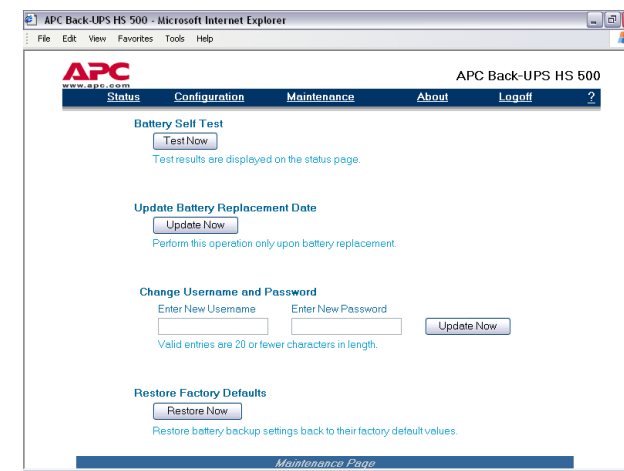

Figure 15. Maintenance Page Screen
14. Using the **Maintenance** Screen (Figure 15), you can perform a **Battery Self-Test**, **Update the Battery Replacement Date**, **Change the User Name or Password** (as previously discussed) then click **Update Now**, or you can **Restore Factory Defaults**. **Note:** You must be logged on to perform any of these tasks.